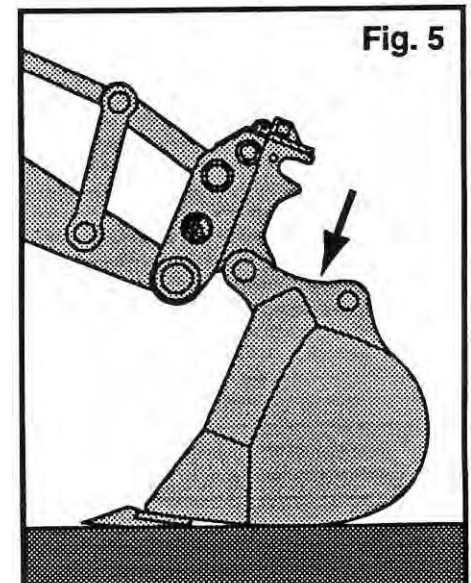

Fig. 5
4. Lower the Quick-Latch and hook the pin on the front of the attachment that is being interfaced (See Fig. 5).